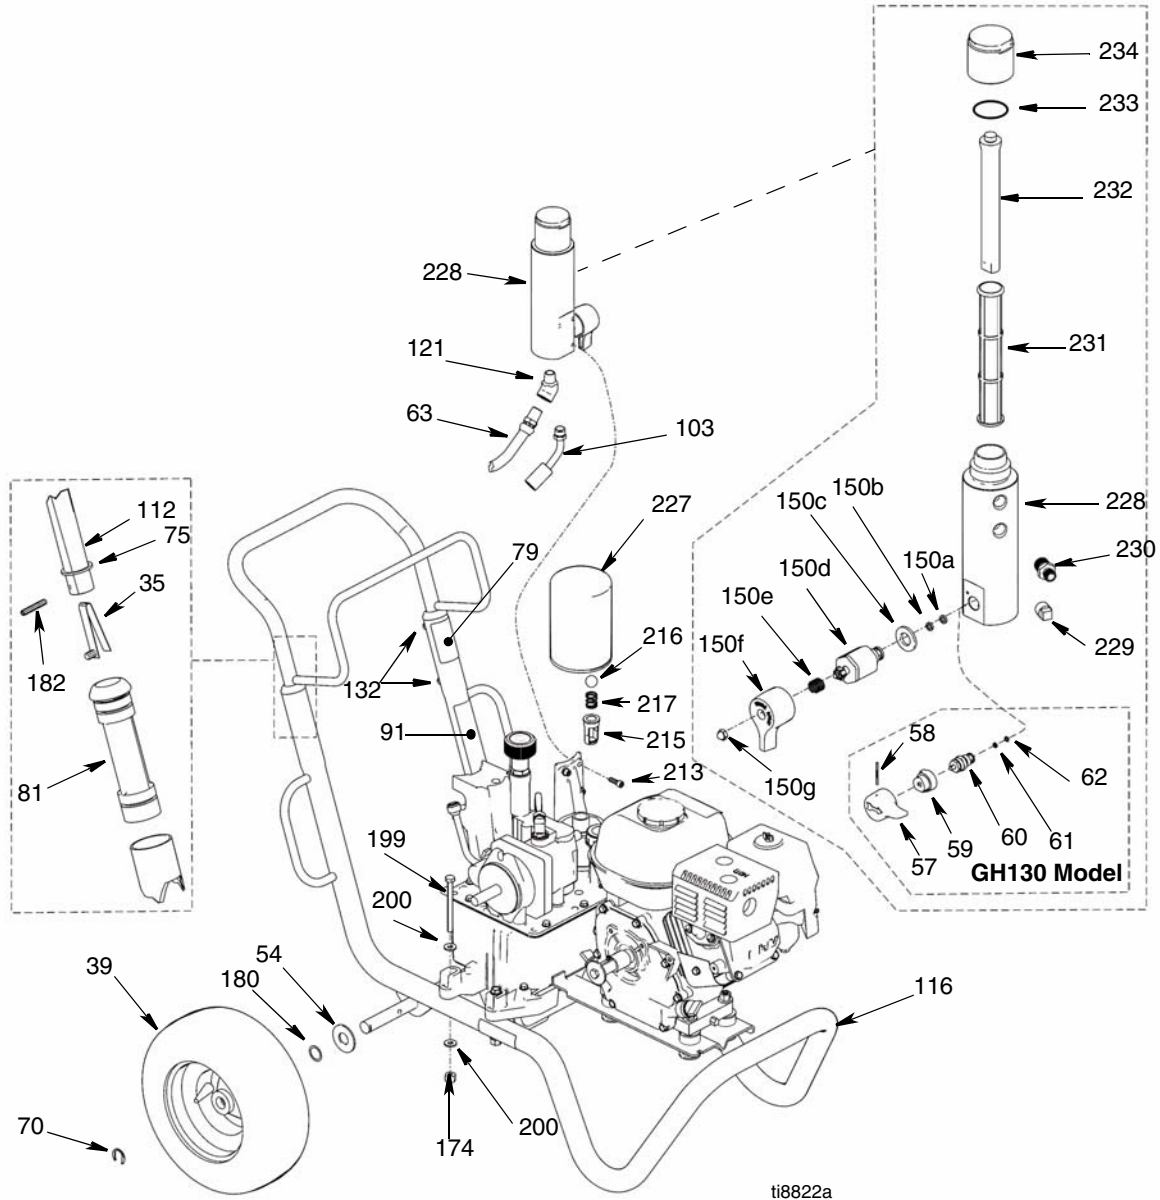

**FIG. 27**
8. (Fig. 27) Install suction hose (114) to bottom of pump (111).